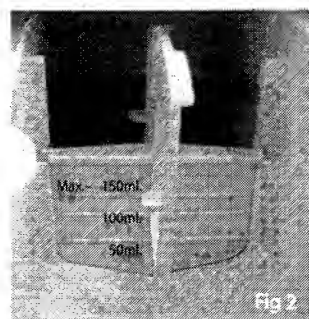

Fig 2
**Note:** The 'Liquid Detergent' Main Wash Indicator features 3 lines which represent the dosage of liquid to be used (Fig 2). We recommend that you do not exceed the maximum limit of 150ml.